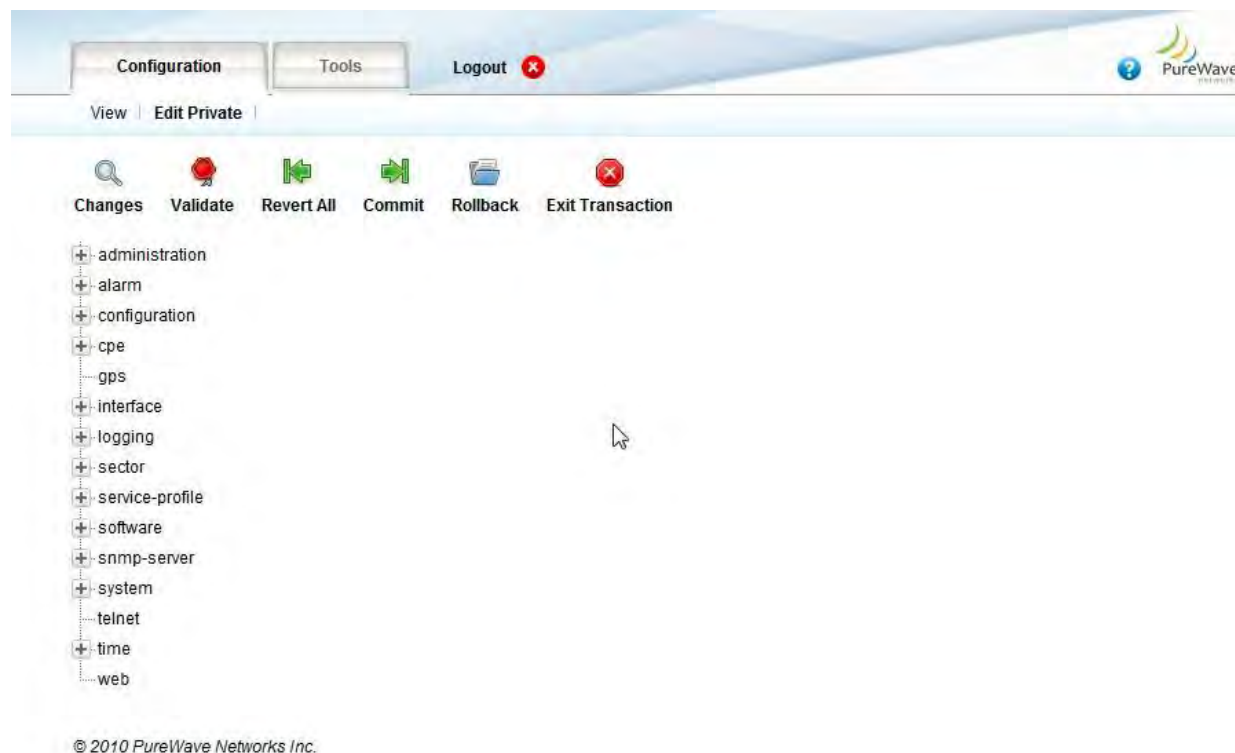

Figure 12 The Web GUI Interface Screen in Edit Private Mode
3. To enable first select *Edit Private* or *Edit Exclusive*. This will drop the User into the Edit mode (Figure 12). The User can enable the Web Server HTTP Support by selecting the *Enabled* option.